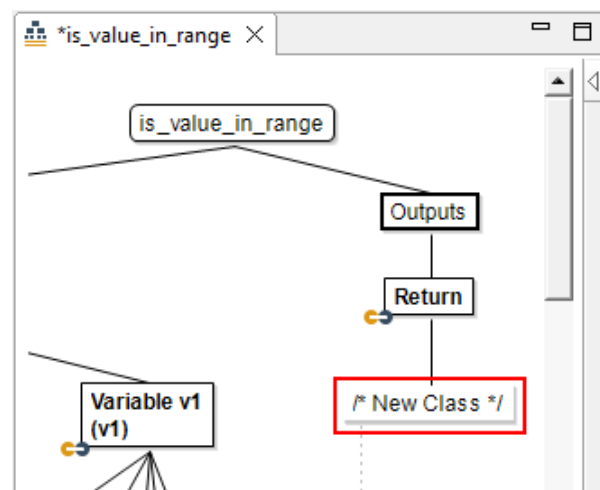

Figure 5.58: Modify class elements
- Double-click on the red marked class in figure 5.58 or press F2 after selecting the figure. This will allow you to edit the class name.